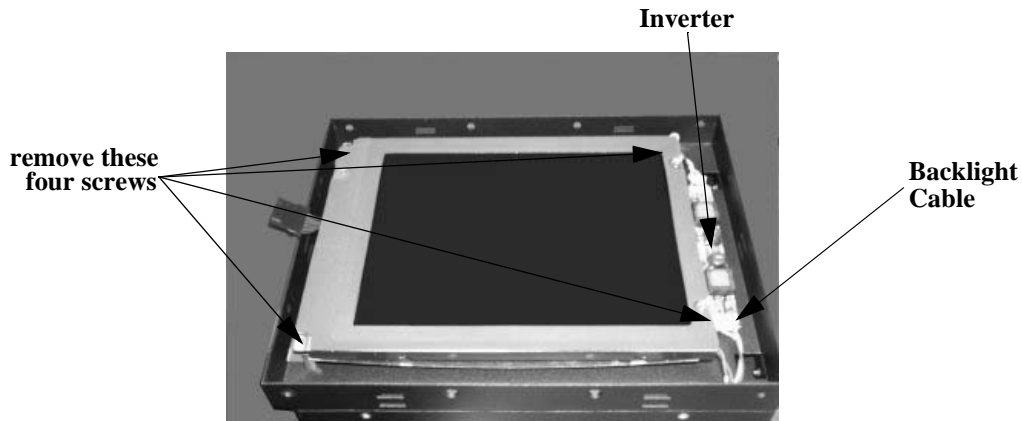

Figure 3 Disassembling the Display Unit
8. Disconnect the backlight cable, shown in *Figure 3*, from the inverter.
9. Remove the four screws, shown in *Figure 3*, that secure the display unit.